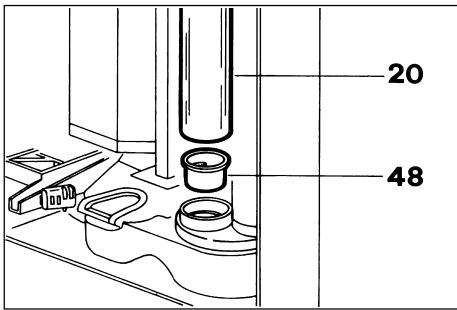

Fig. 27
Attention: Cup tubes have dimensions suitable for cups with a max. diameter of 70 mm; cups having a diameter of 58 mm (fig. 27) can also be used by inserting the necessary reduction rings (48).